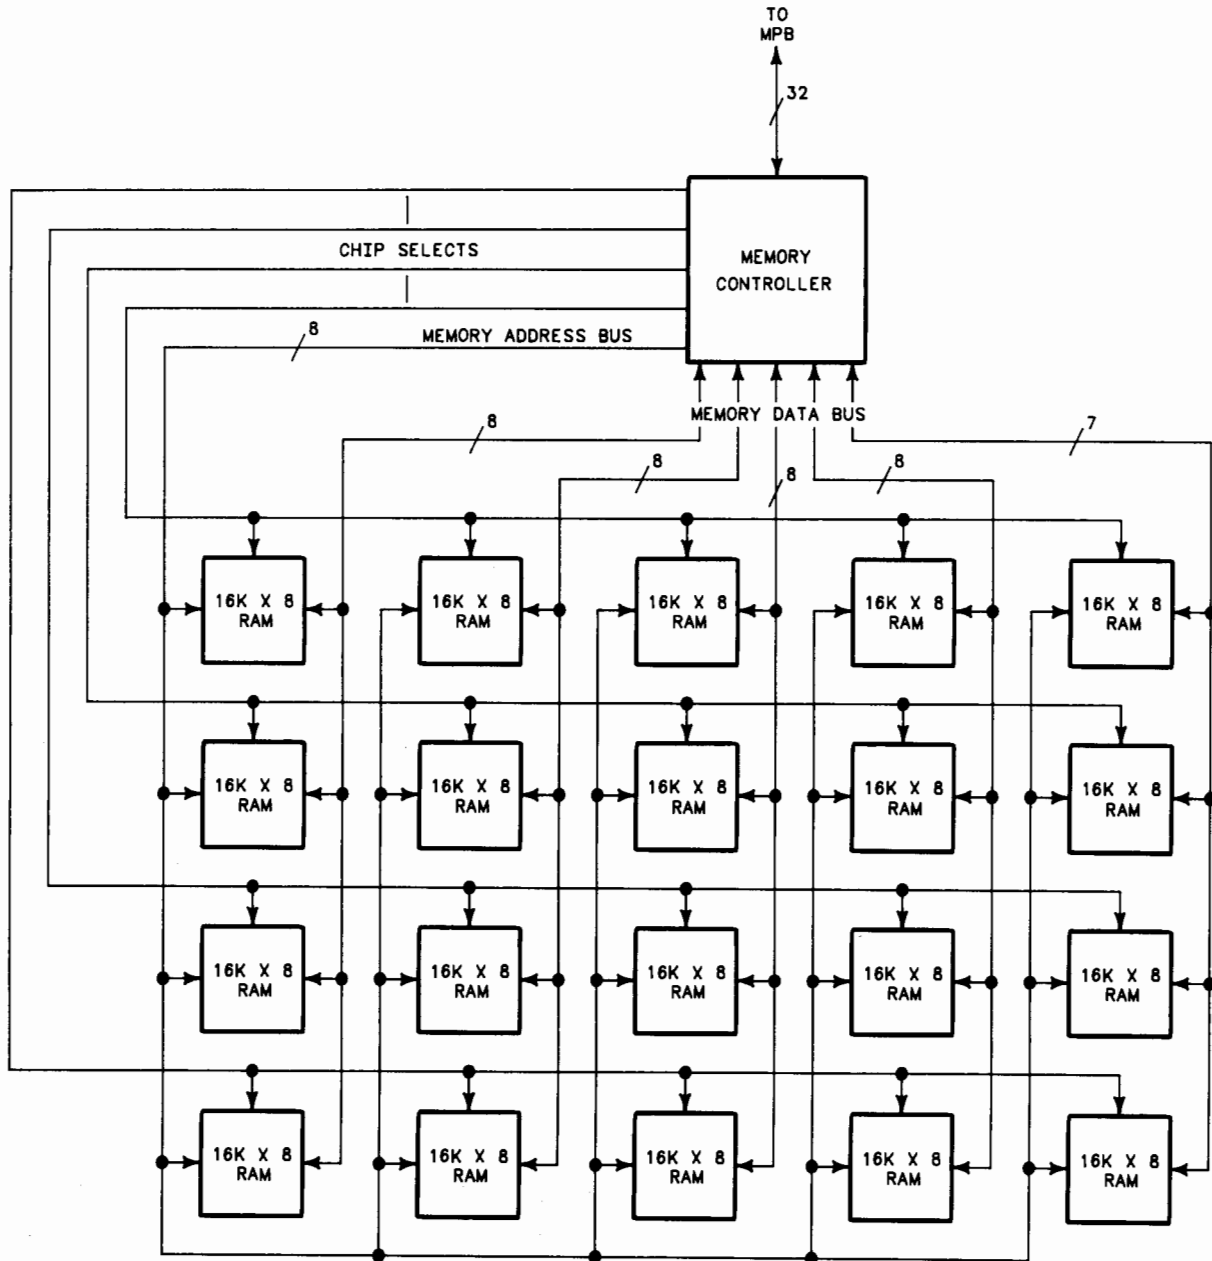

Figure 2-8. 256K RAM Finstrate Block Diagram
Up to 10 RAM boards can be configured in a processor stack. Each board has a Memory Controller (MC) and 256K, 512K, or 1 Megabyte of RAM. This section will cover the theory of operation of the 256K board (Figure 2-8), and following sections will cover the other RAM boards.